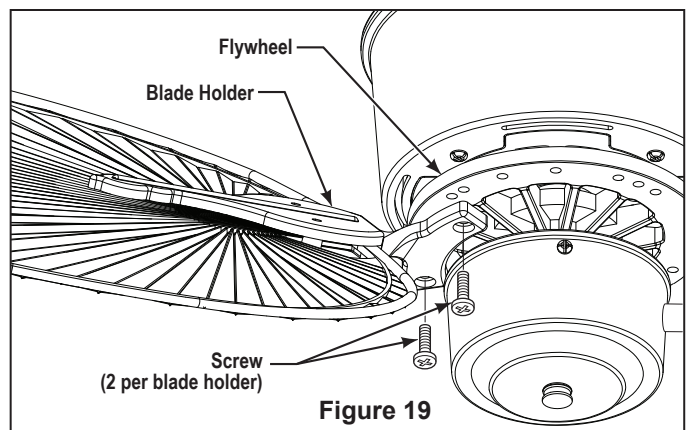

Figure 19
7. Attach Blade Holders to the bottom of the Rubber Flywheel using the 10-32 x 1/2" Flywheel Screws as shown in Figure 19.
8. Make sure the screws securing the Blade Holders to the Flywheel are tight and that the Blade Holders are properly seated on the Flywheel. (Figure 19)